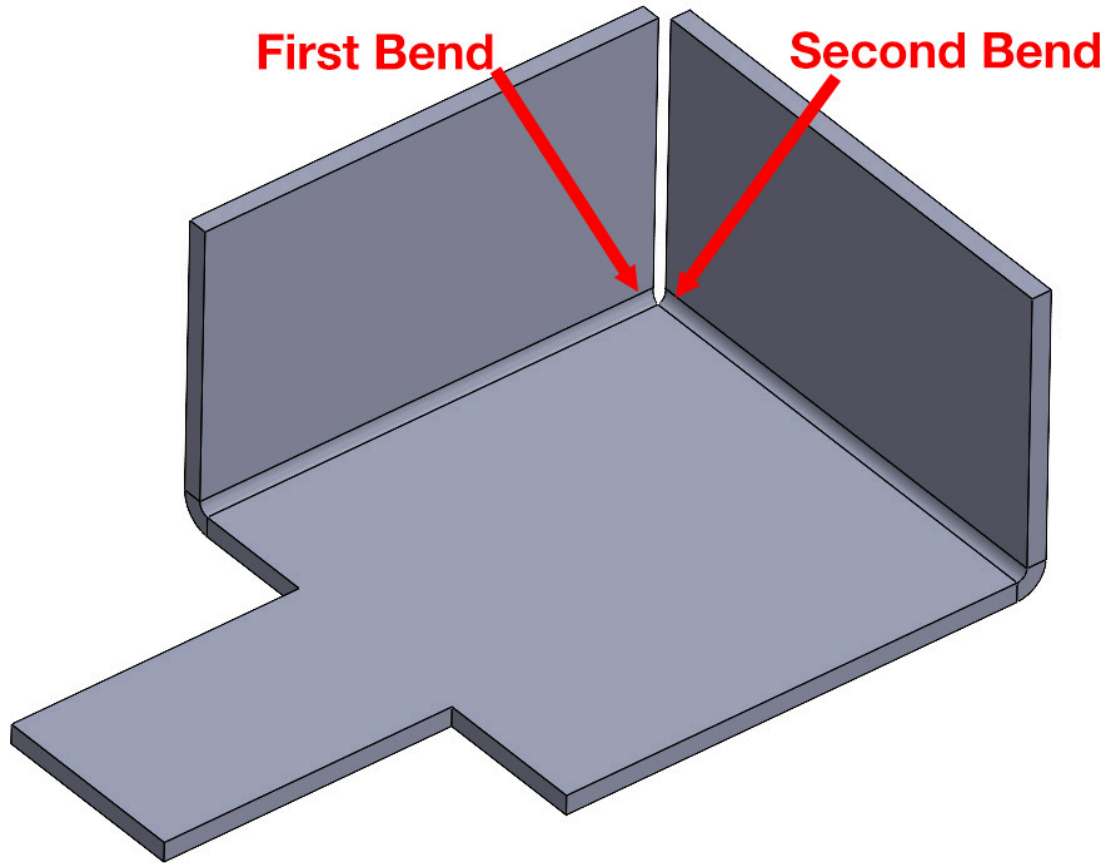

Figure 9.15: A 2 Bend Corner
4. Next, we need to select either a **2 Bend Corner** or a **3 Bend Corner**. In our current model, we only have a 2 Bend Corner. This means that the corner has two bends that are next to each other (*Figure 9.15*). In the next section, we will look at 3 Bend Corners.